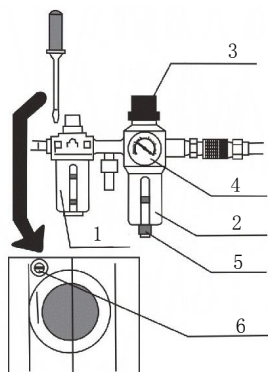

Fig.14
- See Fig. 14: 1- Lubricator; 2- Filter; 3- Regulator.